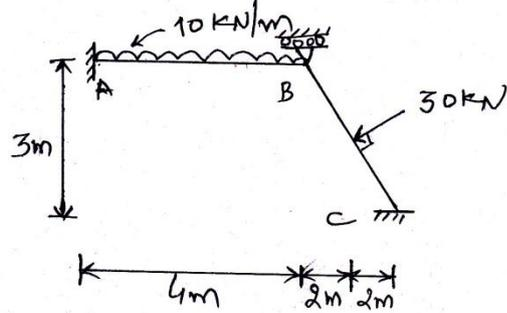

Figure 4
- Q.3 (a) Construct rearranged joint stiffness matrix for the plane frame shown in Figure 4. **07**
- (b) Calculate support reactions and free joint displacements for the plane frame shown in Figure 4. **07**